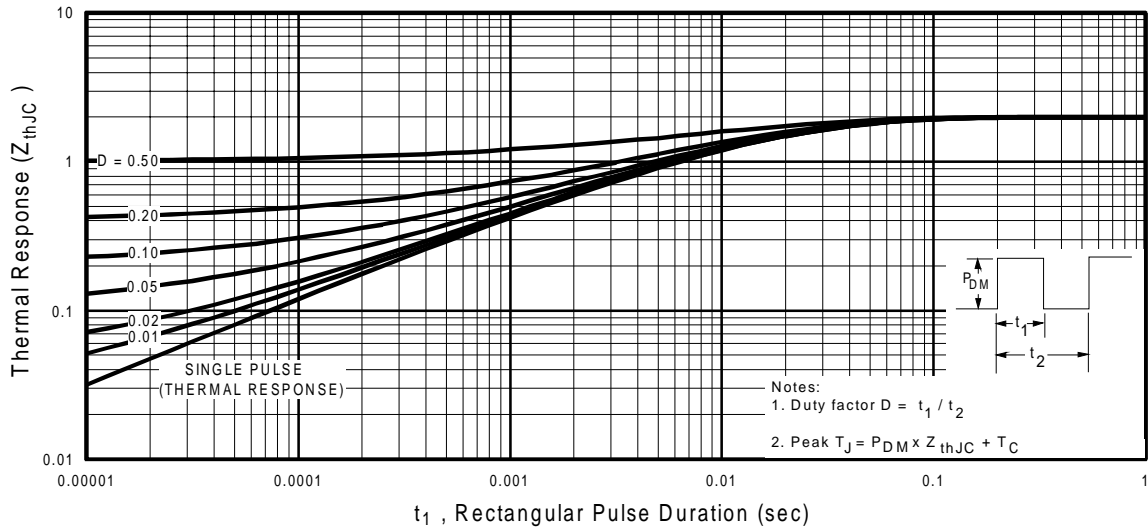

Fig 11. Maximum Effective Transient Thermal Impedance, Junction-to-Case
- ① Repetitive rating; pulse width limited by max. junction temperature. (See fig. 11)
- ② Starting $T_J = 25^\circ\text{C}$, $L = 7.0\text{mH}$